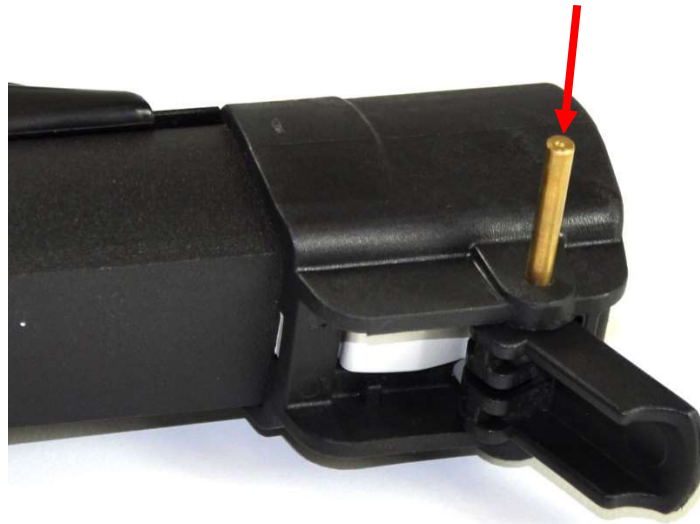

Figure 65: Reassembling the Camlock Upper.
- Hold the cam lever in place whilst the pin is pushed into the camlock. Shown in Figure 65.